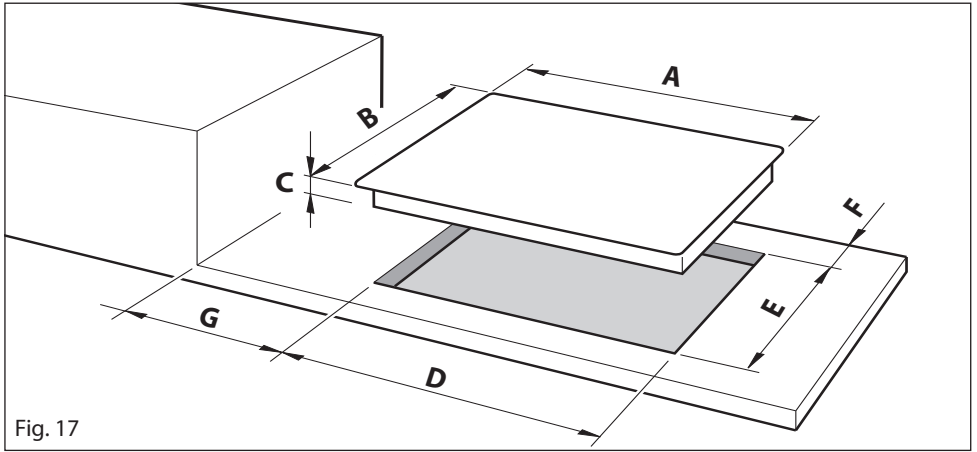

Fig. 17
In order to install the cooker top into the kitchen fixture, a hole with the dimensions shown in fig. 17 has to be made, bearing in mind the following:
- The cooker top must be kept no less than 200 mm away from any side wall (from side edge of cutout - figs. 17, 18).
- The hob must be installed at least 60 mm from the wall (from rear edge of cutout - fig. 17).
- Cut the unit according to the dimensions in fig. 17.